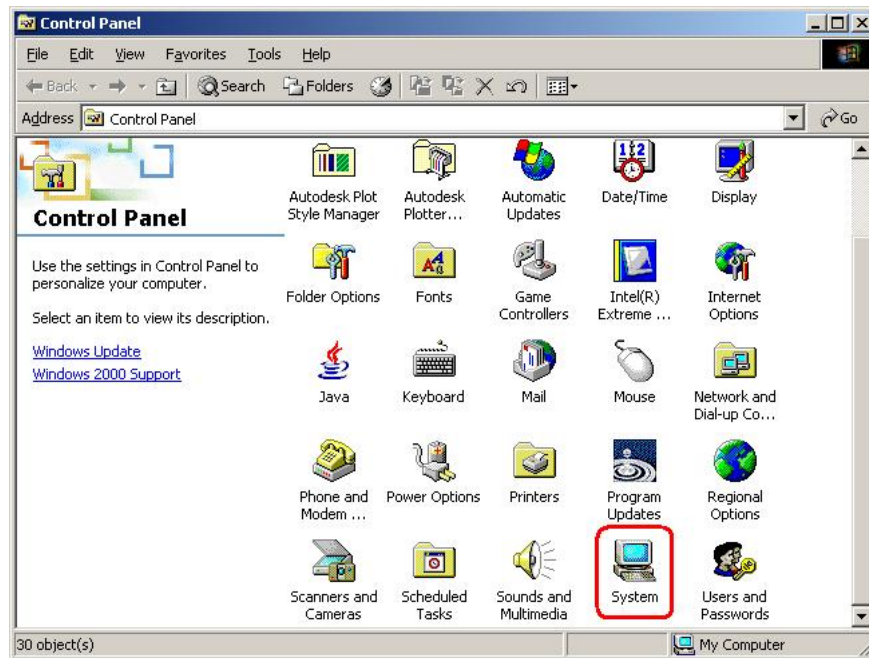

Figure 7-17: Double Click the System Icon
Step 2: Double click the **System** icon (Figure 7-17).